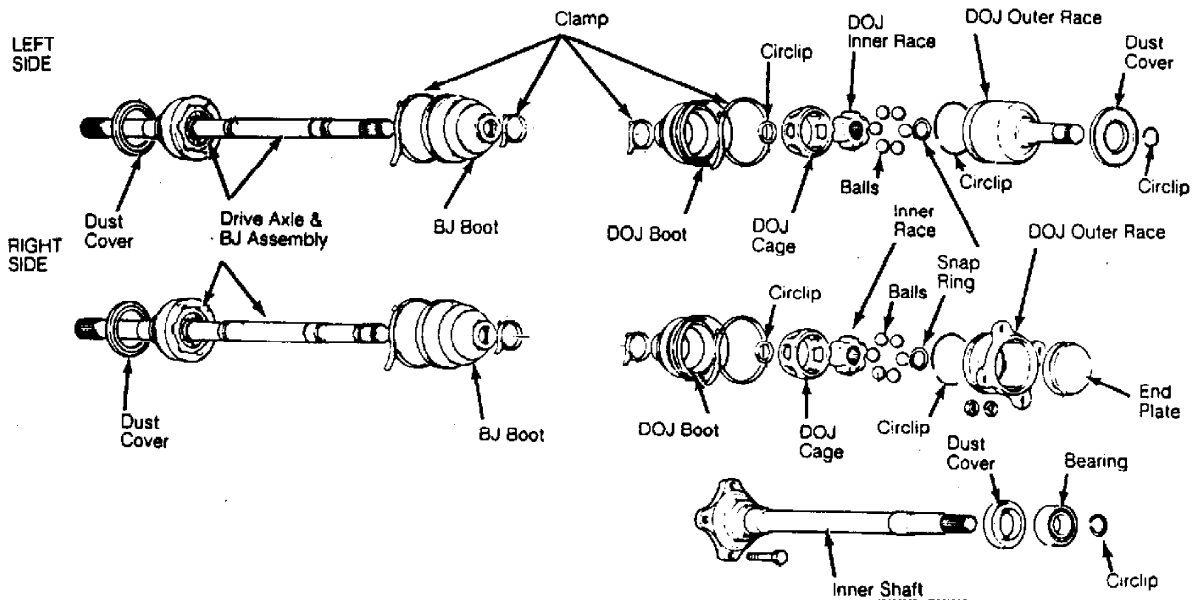

Fig. 2: Exploded View of Drive Axles
1) Remove boot bands. Remove circlip from DOJ outer race. Separate drive axle from DOJ outer race. Remove balls from DOJ cage. Remove DOJ cage from DOJ inner race in direction of BJ. See Fig. 2.